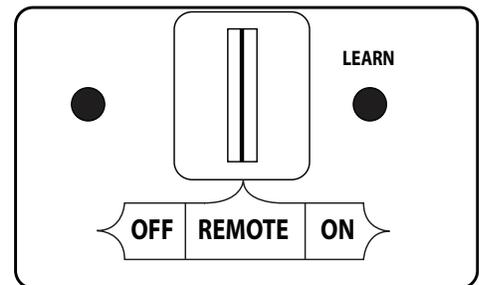
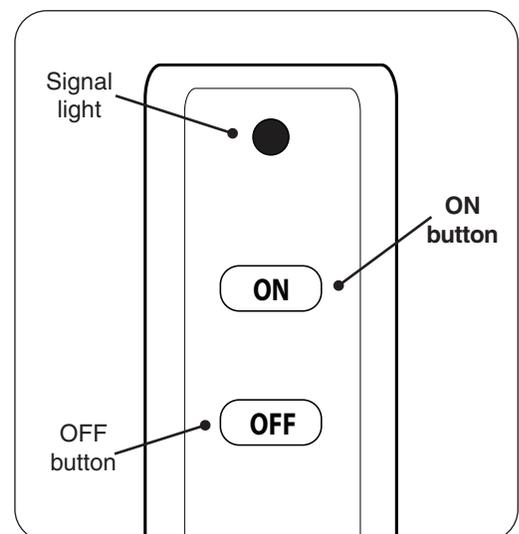

Fig. 29-1 Remote receiver detail (REMOTE)
Fig. 29-2 Remote transmitter detail
1. Locate the 3-position switch on the remote receiver (see Fig. 29-1), and slide the switch to the **REMOTE** position.
**Note: For Switch Box Models,** ensure that the ON/OFF switch at the front of the switch box is in the **OFF (O)** position.
2. Locate the remote transmitter and press the **ON** button (see Fig. 29-2). The ignition sequence will begin.